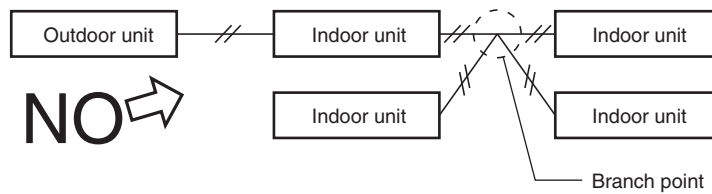

Fig. 4-4
- (3) Do not install the inter-unit control wiring such as star branch wiring. Star branch wiring causes misaddress setting. (Fig. 4-4)